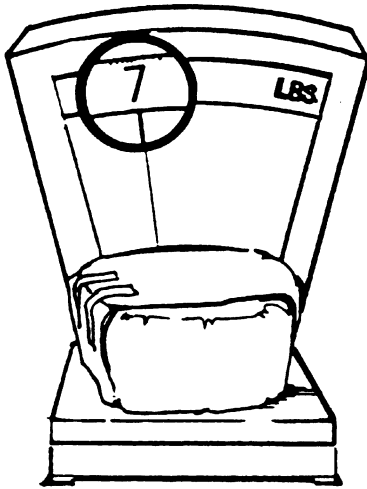

Figure 17. UTENSILS SET WRAPPED WEIGHT SHOULD NOT EXCEED 7 POUNDS.
f. Total weight of utensil set and wrapper should not exceed **seven pounds** (Figure 17).